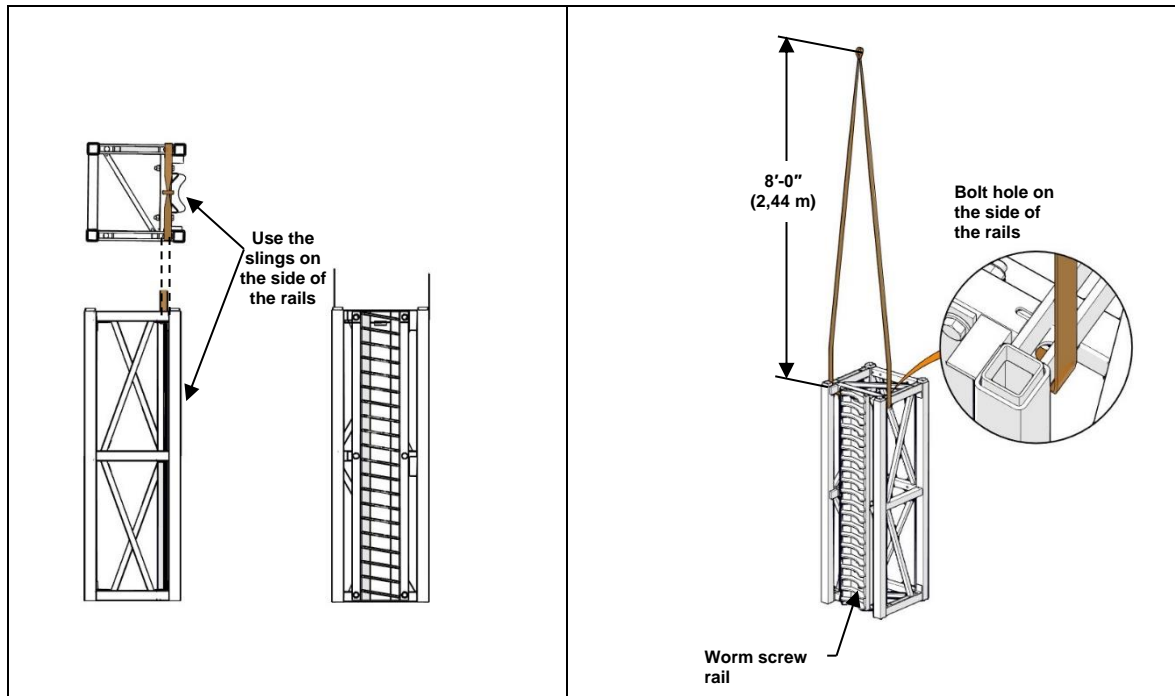

Figure 48 - Use of lifting lings and belts
- Lifting belts and slings must be positioned on the side of the worm screw rails, in the corners marked by the bolt insertion holes (*Figure 48*).
- A minimum distance of 8'-0" (2,44 m) between the end of the mast and the lifting hook must be observed (*Figure 48*).